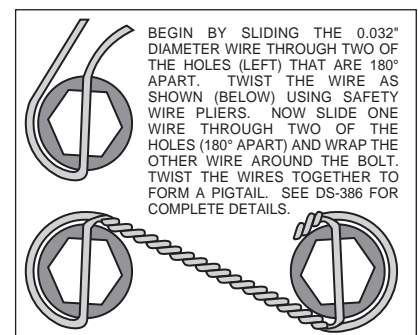

Figure 2. Safety Wire Diagram
- Bolt rotor (1) to hat (2) using bolts (3). Torque bolts (3) to 22 ft-lb. Safety wire bolts (3) using standard 0.032 inch diameter stainless steel safety wire as shown in Figure 2. Please refer to Wilwood's data sheet DS-386 (available at www.wilwood.com/pdf/ds386.pdf) for complete safety wire installation instructions.
- Apply red *Loctite*® 271 to the mounting bolts threads contained within the caliper (4). Mount caliper (4) to bracket (5). Torque these bolts to 42 ft-lb.
- Install the brake pads (6) into the caliper (4) and secure using cotter pin (7). The bracket (5) acts as the pad retainer for the inboard side pad.